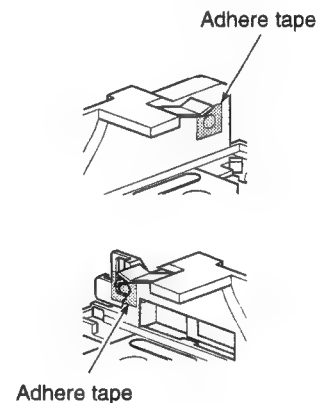

Fig. 2-4-6
1. Put some tapes on both left and right side of the cassette holder so that the start/end sensors are not affected by the light. (Fig. 2-4-6)